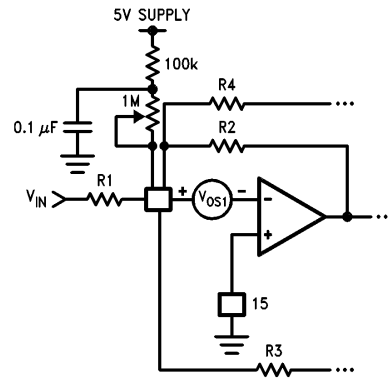

FIGURE 24. Method for Trimming V_{OS}
the unused side B opamp. The Q is 10 and the gain is 1 V/V in the passband. However, $f_{CLK}/f_0 = 1000$ to allow for a wide input spectrum. This means that for pin 12 tied to ground (100:1 mode), $R_4/R_2 = 100$. The offset voltage at the lowpass output (LP) will be about 3V. However, this is an extreme case and the resistor ratio is usually much smaller. Where necessary, the offset voltage can be adjusted by using the circuit of Figure 24. This allows adjustment of V_{OS1} , which will have varying effects on the different outputs as described in the above equations. Some outputs cannot be adjusted this way in some modes, however ($V_{OS(BP)}$ in modes 1a and 3, for example).